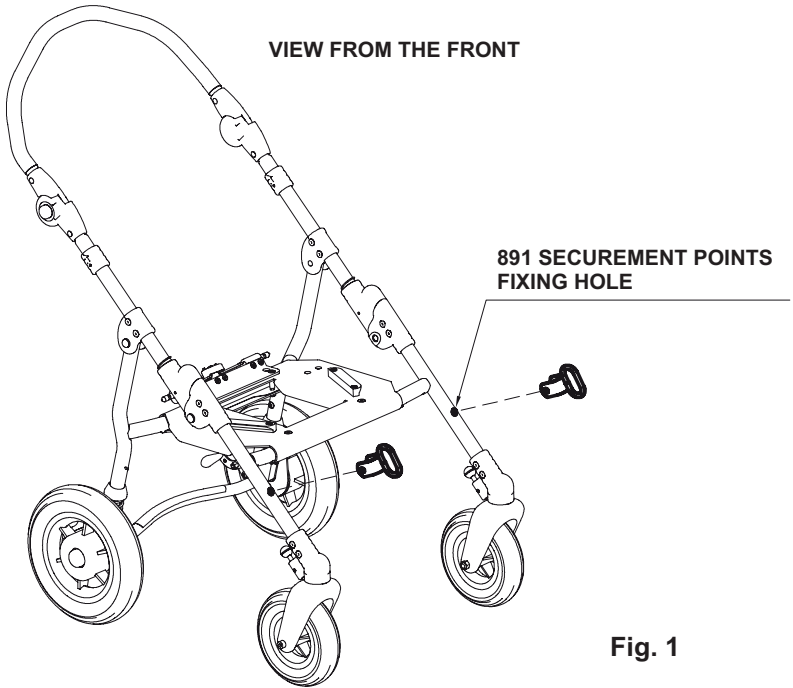

Fig. 1
- **THE STROLLER MUST BE ANCHORED TO THE MOTOR VEHICLE WITH THE BACKREST AND THE LEGREST IN THE UPRIGHT POSITION by:** 1) a four-point strap-type tie down system that complies with ISO 10542-2, supplied by the vehicle and 2) our accessory 891 - set of 4 tie-down hooks (see fig. 1 and 2, page 14; fig. 3, page 15 and fig. 4, page 16)